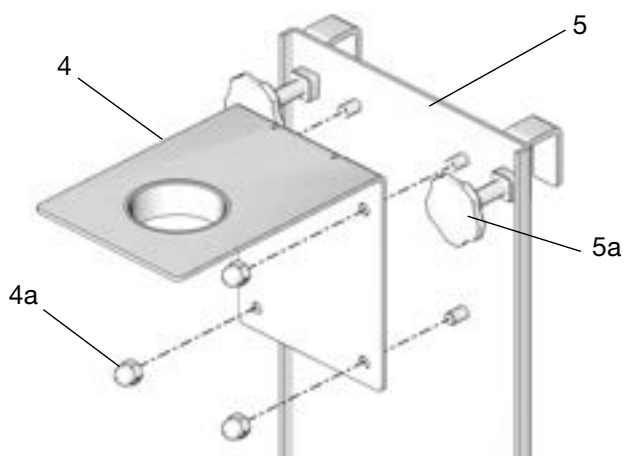

FIG. 12
1. Assemble the pump bracket pieces 4 and 5 using the 4 nuts (4a) (provided) (FIG. 12).